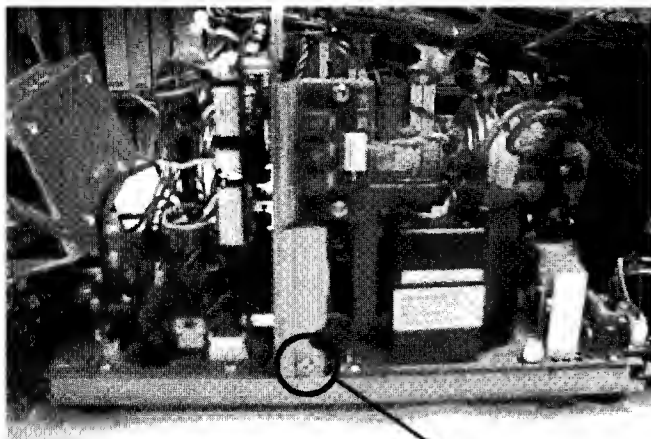

Fig.16 A
7. Take out 2 screws A of the middle bracket assembly (see Figs. 16 and 17).